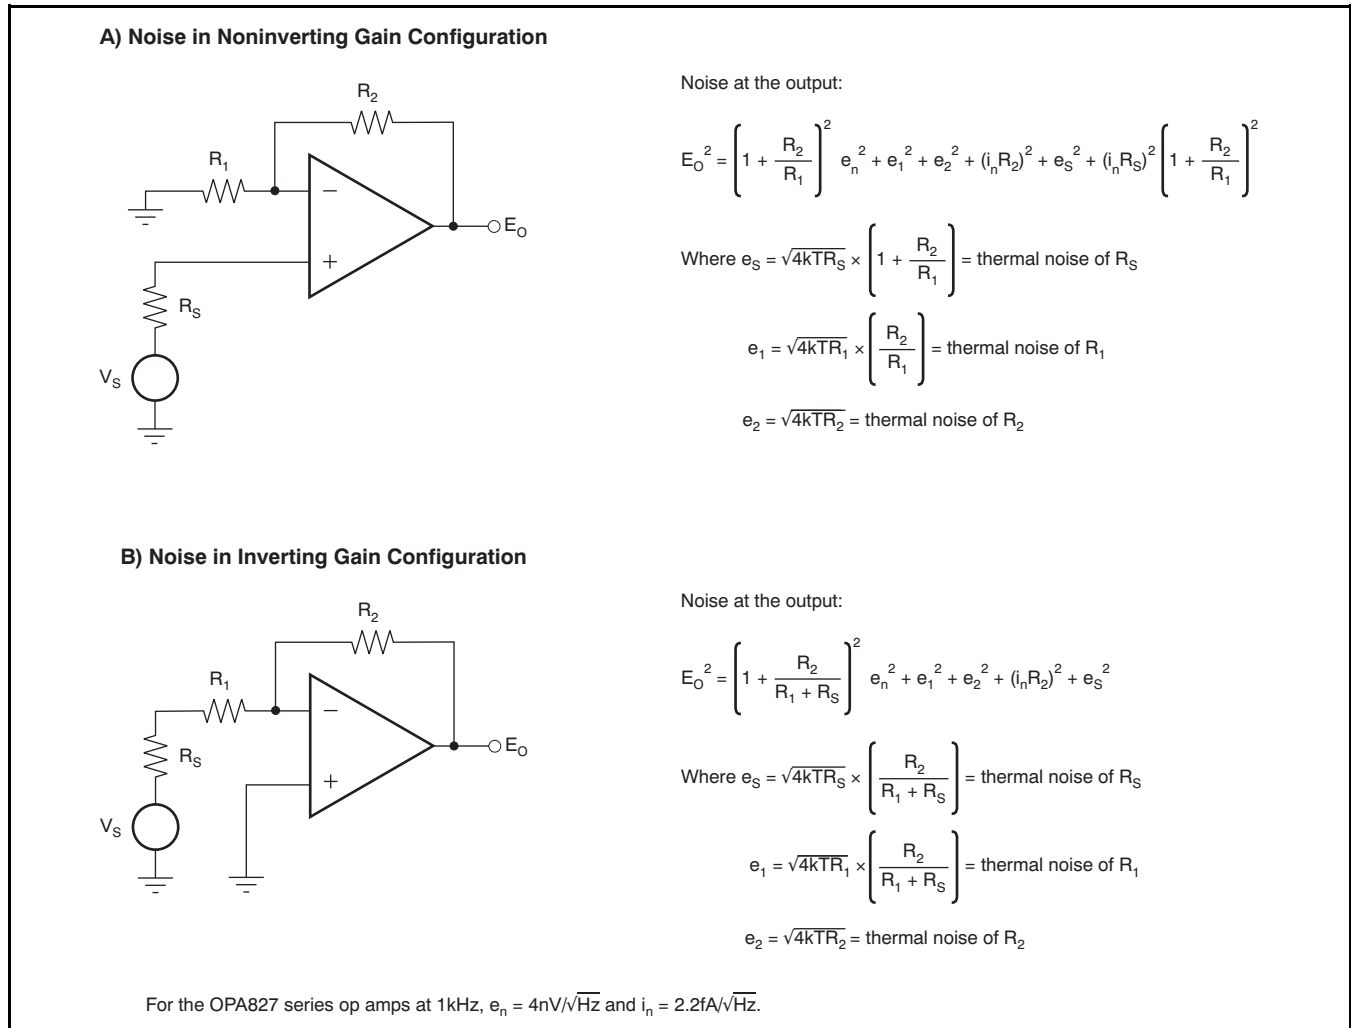

Figure 42. Noise Calculation in Gain Configurations
Figure 42 illustrates both noninverting (A) and inverting (B) op amp circuit configurations with gain. In circuit configurations with gain, the feedback network resistors also contribute noise. The current noise of the op amp reacts with the feedback resistors to create additional noise components.